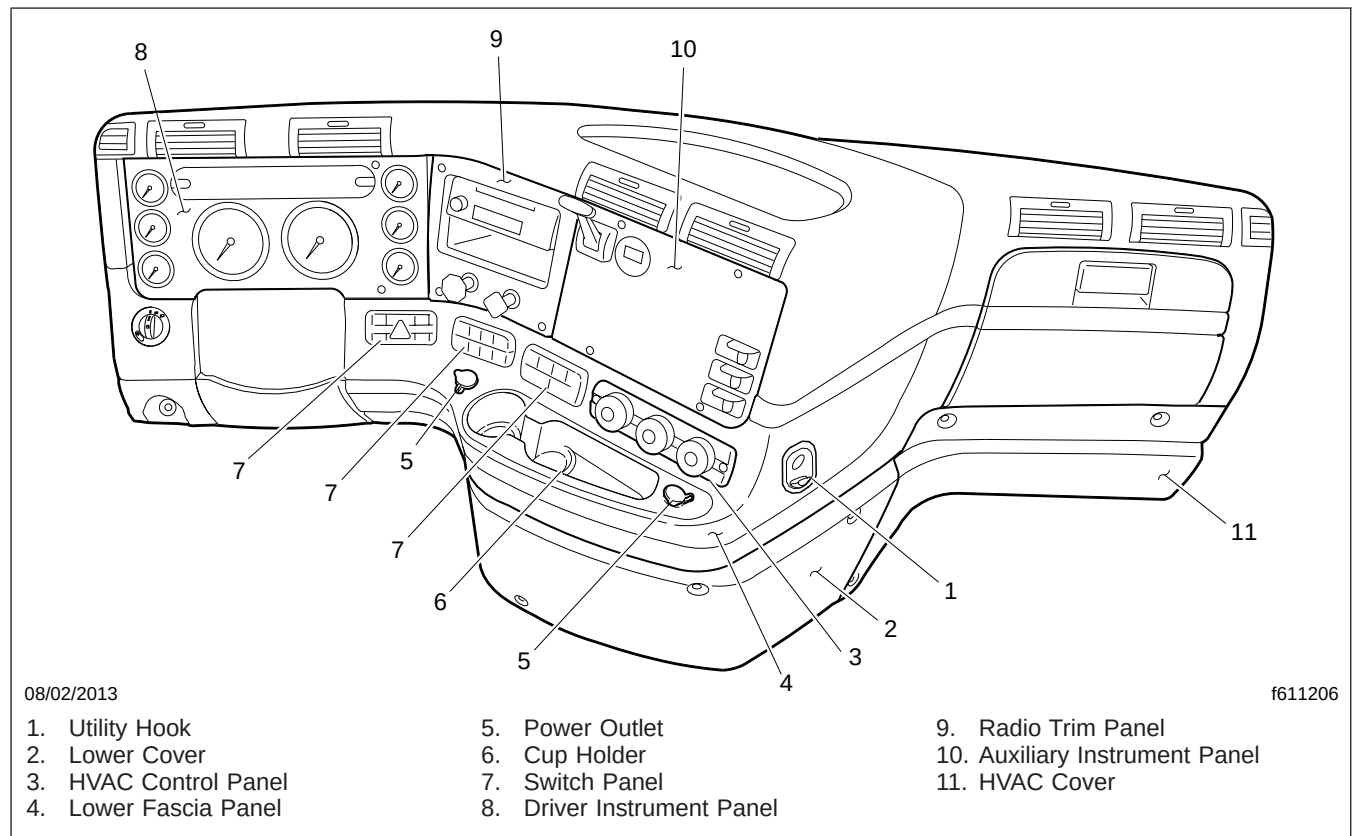

Fig. 1, Dash Panels and Components
3. Remove the lower cover by removing the four Torx screws, and the lower left Torx screw on the HVAC cover. See Fig. 1.